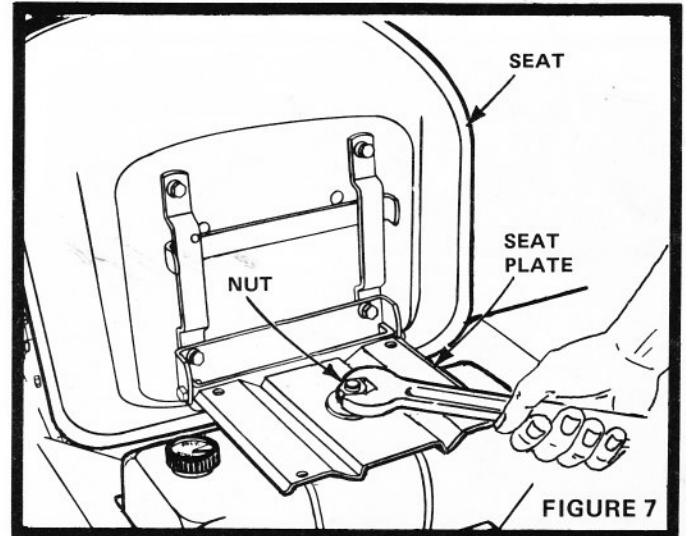

FIGURE 7
2. Seat position may be adjusted forward or backward by loosening Nut in Seat Plate (Fig. 7). NOTE WHEN RE-TIGHTENING NUT AFTER ADJUSTMENT, MAKE SURE SEAT PLATE HAS NOT TWISTED OUT OF ALIGNMENT WITH SEAT SPRING.